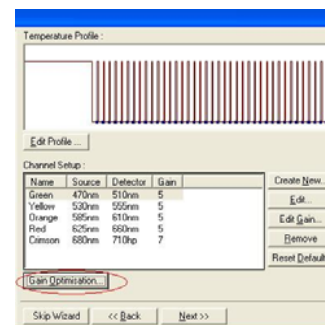
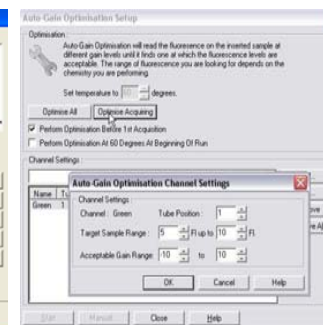
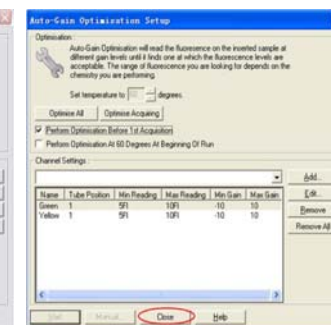

Figure 1
Figure 2
Figure 3
- Prior to the operation, please set up the PCR program by the following steps: ① select “Gain Optimization”, the “Auto Gain Optimization Setup” window will open (see Figure 1); ② Click “Perform Calibration Before 1st Acquisition” and “Optimize Acquiring” (see Figure 2). ③ Click “OK”, then click “Close” to continue (see Figure 3).